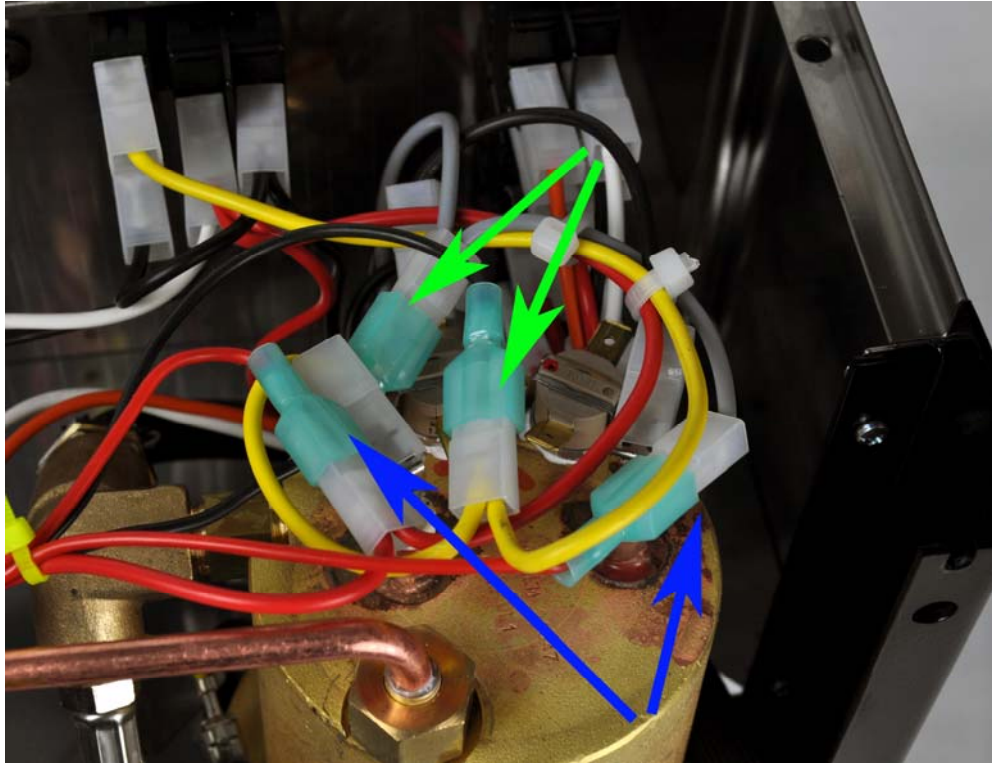

Figure 19. SSR output connections to thermostats cable
- 3) As shown in Figure 19, the blue arrows show the red cables from SSR output are connected to the cables that originally were on the brew control thermostat. The green arrows show the